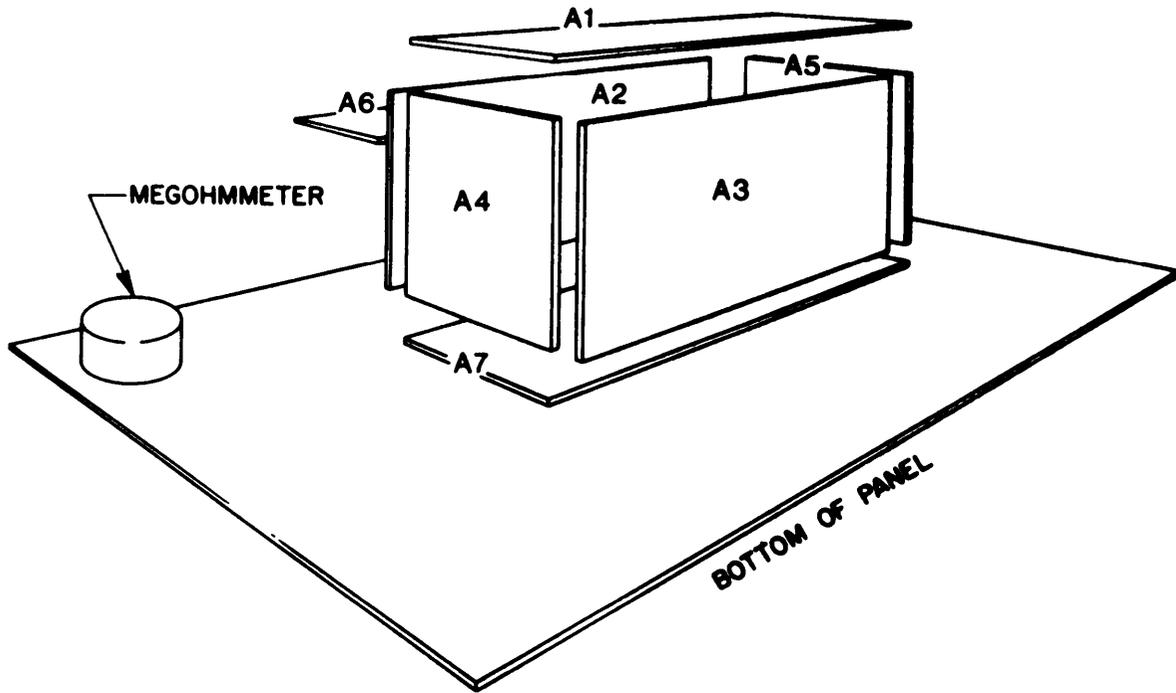

Figure 4-1. Circuit Card Location
b. The checkouts consist of verifying that the outputs at the pins on each board are within specification, If not within specification, replace board. Refer to Figure 4-1 for circuit card location.